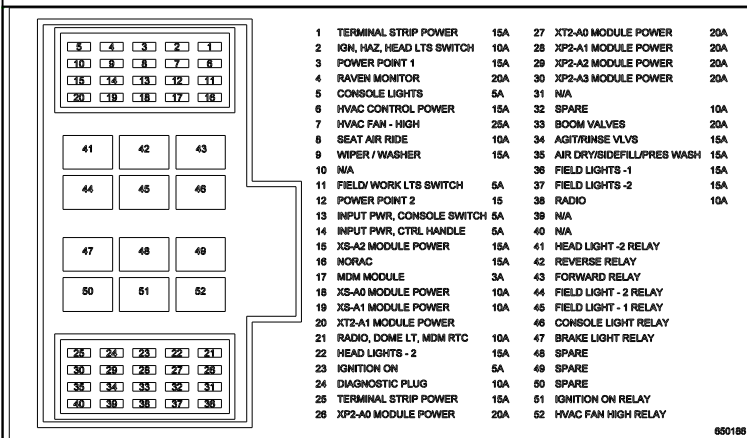
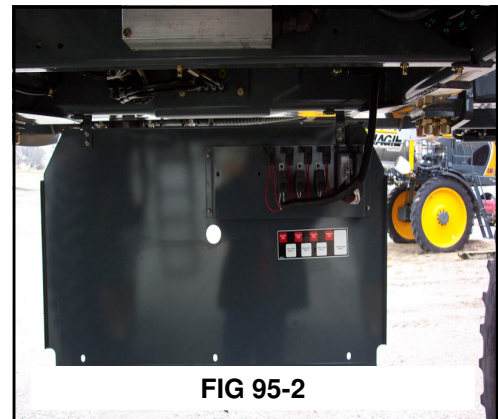

FIG 95-1
FIG 95-2
**CIRCUIT BREAKERS & FUSES**– The STS 16 has circuit breaker and fuse systems in various locations. Under the right hand console (fig. 95-1) for the cab functions, under the cab (fig. 95-2) for the light functions, and the engine compartment (fig. 95-3) for the engine functions.